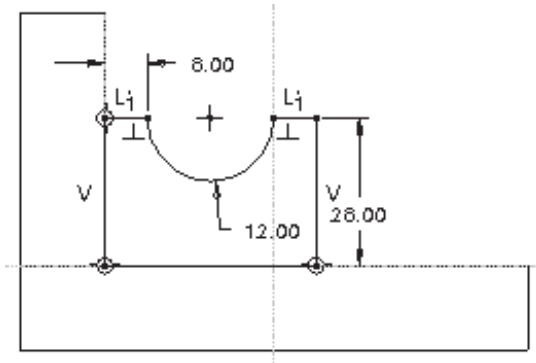

Figure 5-83 Sketch with dimensions and constraints
1. Draw the sketch using various sketcher tools, as shown in Figure 5-83.
2. The sketch is dimensioned automatically and some weak dimensions are assigned to it. Add the required constraints and modify the weak dimensions to the dimensions shown in Figure 5-83.